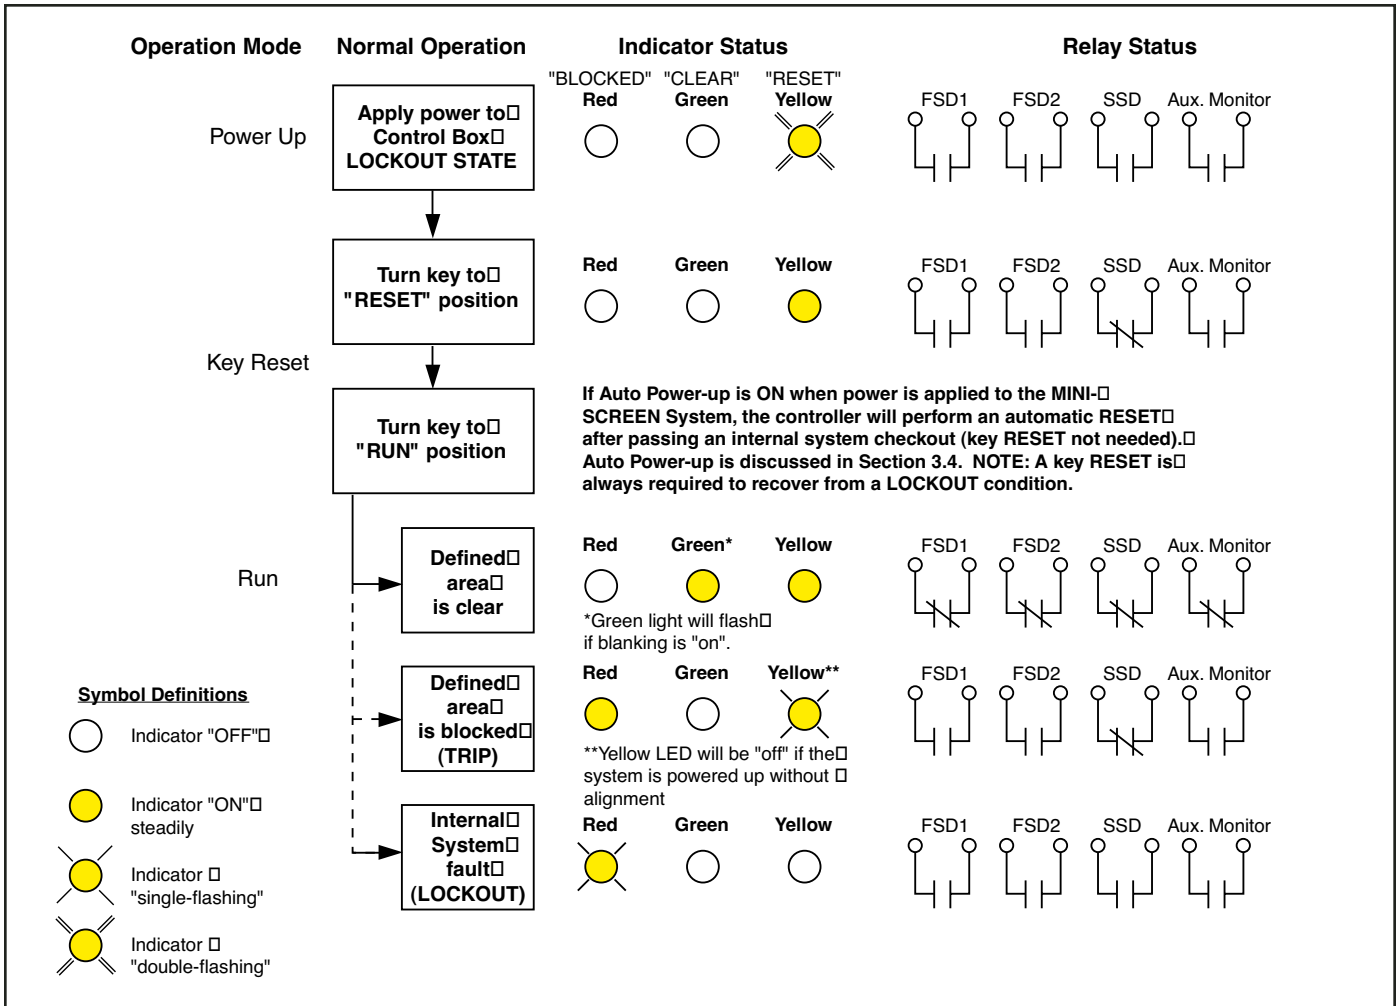

Figure 5. Operating Status Conditions
- 1) Upon "power-up" of the MINI-SCREEN System (unless Auto Power-up is "on"; see Figure 5, page 10),
- 2) If ac power to the MINI-SCREEN System is interrupted (unless Auto Power-up is "on"; see Figure 5),
A lockout condition resulting from an internal system fault is indicated by a flashing red status indicator LED on the control box and the receiver unit. The green and yellow LEDs will be "off". See Fig. 5, page 10.
**YELLOW (only) "on" and double-flashing:** a *double-flashing* YELLOW LED indicates a power-up or power interrupt lockout condition. *These lockouts occur in the normal course of powering up the MINI-SCREEN System or upon an interruption of power to the System* (unless Auto Power-up is "on"; see Fig. 5). SSD, FSD1, FSD2, and Auxiliary Monitor contacts are open (de-energized).